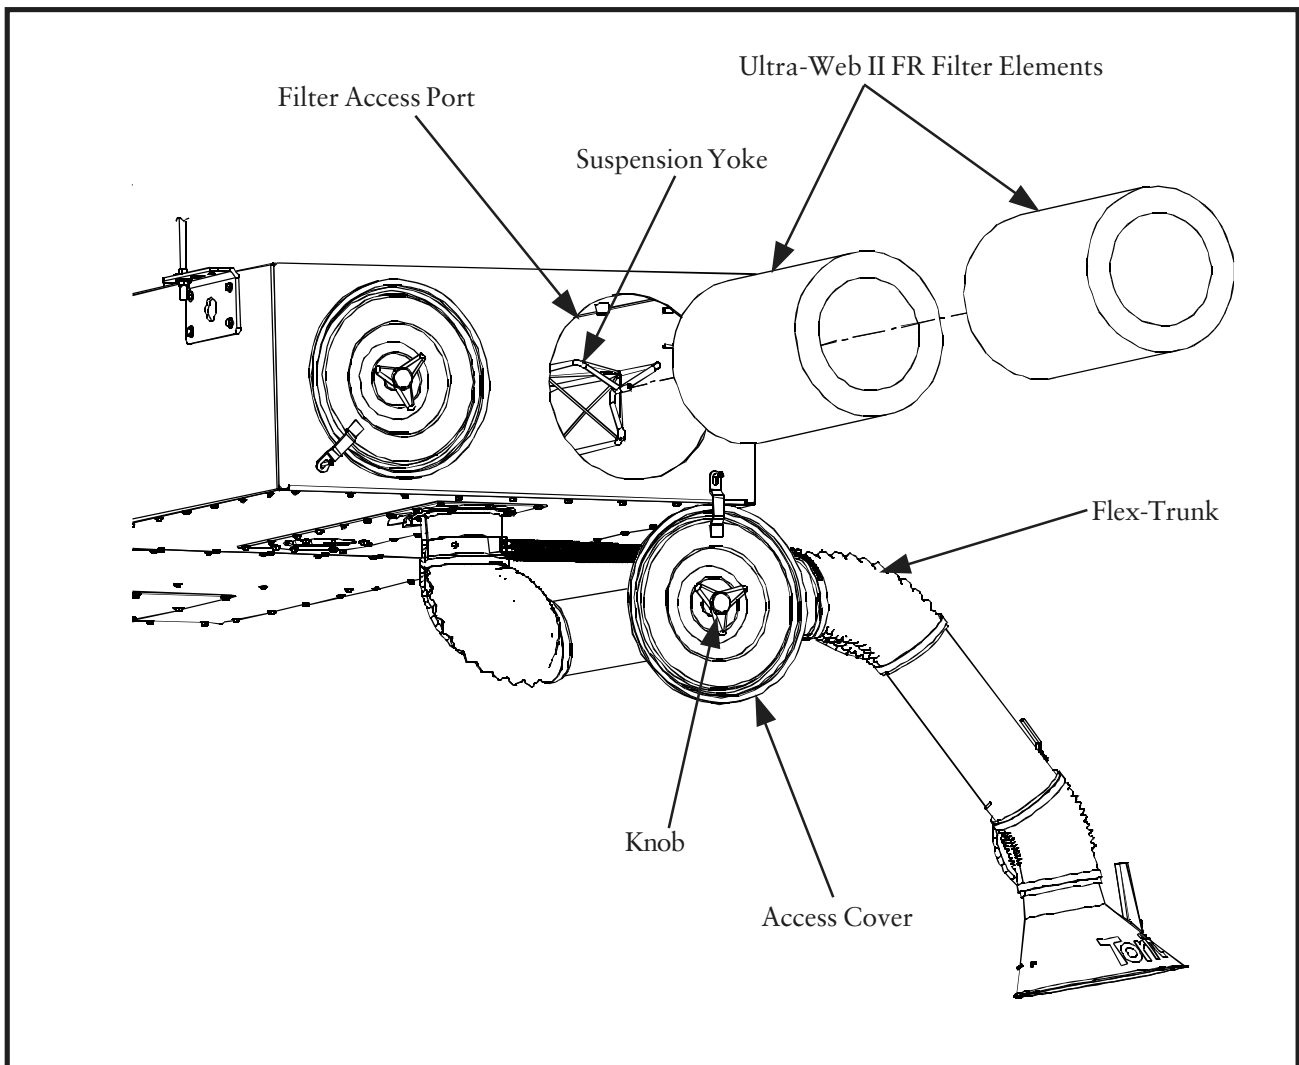

Figure 12
6.1 Filter Element Removal (See Figure 12)
6.2 Filter Element Replacement (See Figure 12)
4. Filter elements plugged with particulate.	4a. Remove and replace using only Torit Ultra-Web FR filter elements. See Section 6.2, Filter Element Replacement, Figure 12, Filter Element Replacement, and Replacement Parts List.
d. Dust storage area is overflowing.	4d. Clean out dust storage area as described in Section 6.3, Dust Removal. See Section 6.2, Filter Element Replacement and Figure 12, Filter Element Replacement.